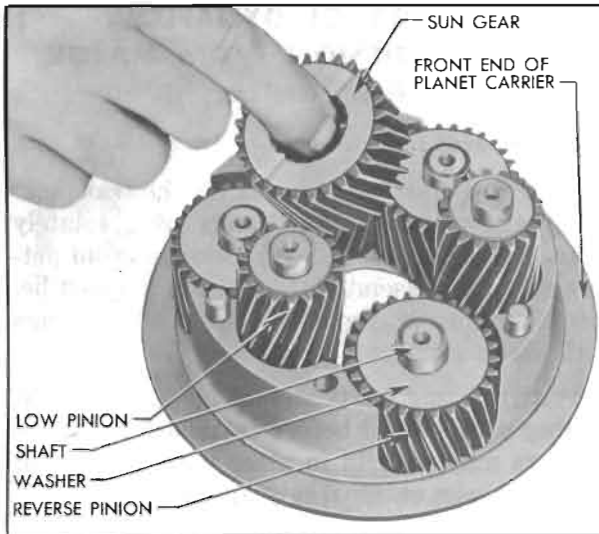

Figure 5-83—Removal of Sun Gear and Planet Pinions
3. Remove the sun gear rear thrust washer, which may be either on sun gear or stuck in rear end of carrier. Remove reverse sun gear. See figure 5-83.
5. Remove the 3 low planet pinion assemblies, each consisting of a pinion, shaft, and bearing rollers retained at each end of pinion by steel thrust washers. See figure 5-83. A retaining ring snapped into a groove in shaft will hold the lower thrust washer in place as shaft is tapped out of carrier. The shaft is prevented from turning in carrier by a $\frac{3}{32}$ " steel ball imbedded in end of shaft. Do not lose the steel ball.
2. Make sure that steel ball is embedded in each shaft to prevent turning in carrier, then install planet pinion assemblies in front end of planet carrier, using care to engage the steel balls in the notches in carrier. See figure 5-83.